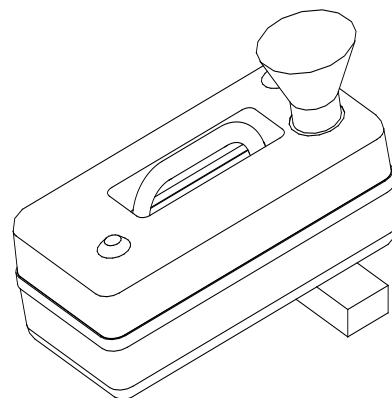

Figure 2
2. Place a funnel into the opening and pour a loosely mixed, flowing concrete into the box. Funnel may require slitting to fit opening of Ballast Block. Position Ballast Block on an angle to insure complete filling. See Figure 2.